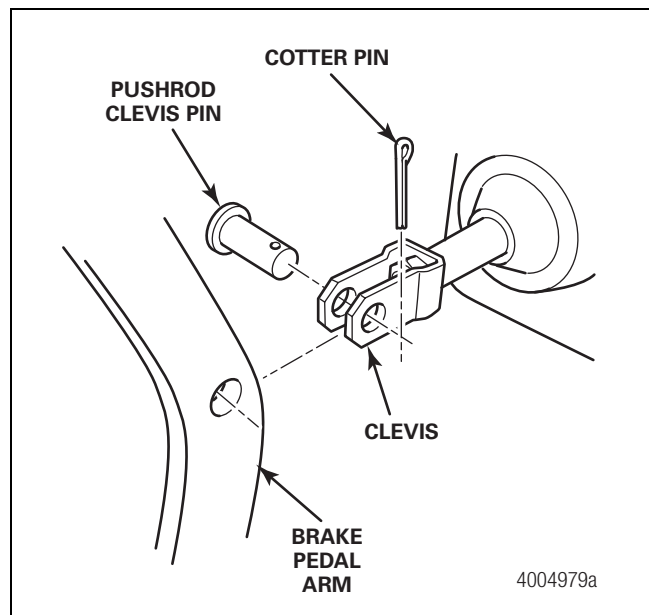

Figure 4.39
13. Disconnect the master cylinder pushrod clevis pin from the brake pedal. Figure 4.39.